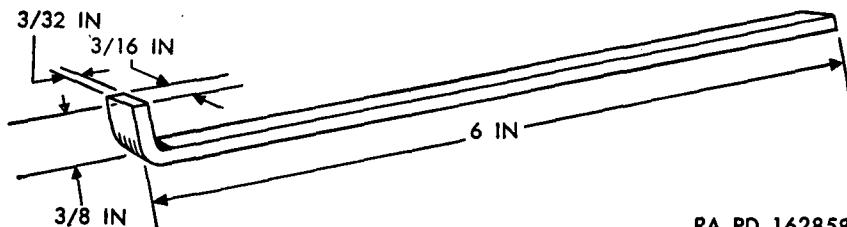

Figure 32. Tool, vacuum diaphragm flexing.
- (1) Soak diaphragm in clean kerosene. Fuel oil may be used, but do not use shellac or sealing compound. Assemble oil seal on vacuum diaphragm pull rod in the following sequence: oil seal spring, upper retainer, oil seal washer, and lower retainer. Turn lower retainer 90 degrees to lock in position.
- (2) Lift the pump body above eye level, facing the vacuum diaphragm flange. The two vacuum links will swing down so that the diaphragm pull rod can be hooked to both links.
- (3) While holding vacuum diaphragm in position, the body should be clamped in a vise, vacuum side up. Clamp on either side of the mounting flange. The vacuum diaphragm must be held level with body flange during the following operations. The diaphragm is held level by inserting a $\frac{3}{32}$ -inch piece of metal between rocker arm stop and body. This tool (figs. 32 and 33) can be made from a piece of steel, $\frac{3}{16} \times \frac{3}{32} \times 6$. Bend one end to form a right angle hook three-eighths of an inch from bend to end.
$\frac{3}{32}$ -inch piece of metal between rocker arm stop and body. This tool can be made from a piece of steel, $\frac{3}{16} \times \frac{3}{32} \times 6$. Bend one end to form a right angle hook, three-eighths of an inch from bend to end (fig. 32).